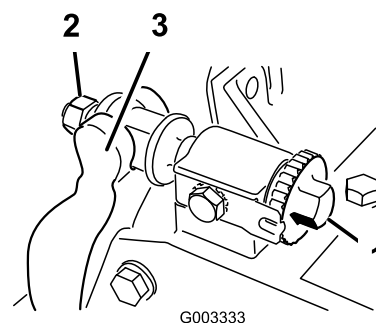

Figure 59
1. Turn the bedbar adjuster screw, counterclockwise, to back the bedknife away from reel (Figure 59).